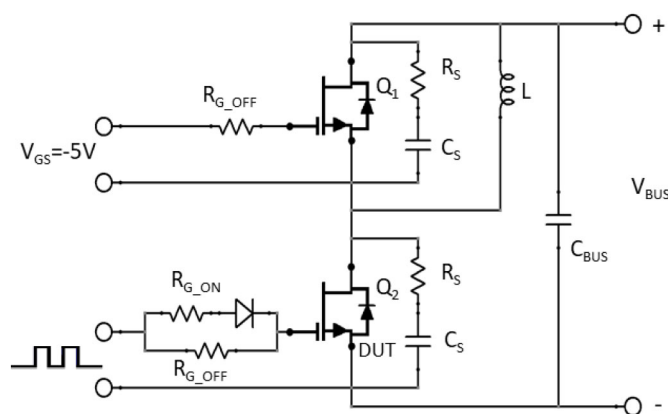

Figure 31. Clamped Inductive Load Switching Test Circuit With An RC Snubber ($R_S = 5 \Omega$ and $C_S = 680 \text{ pF}$)
6. The switching performance are evaluated with a RC snubber circuit as shown in Figure 31.